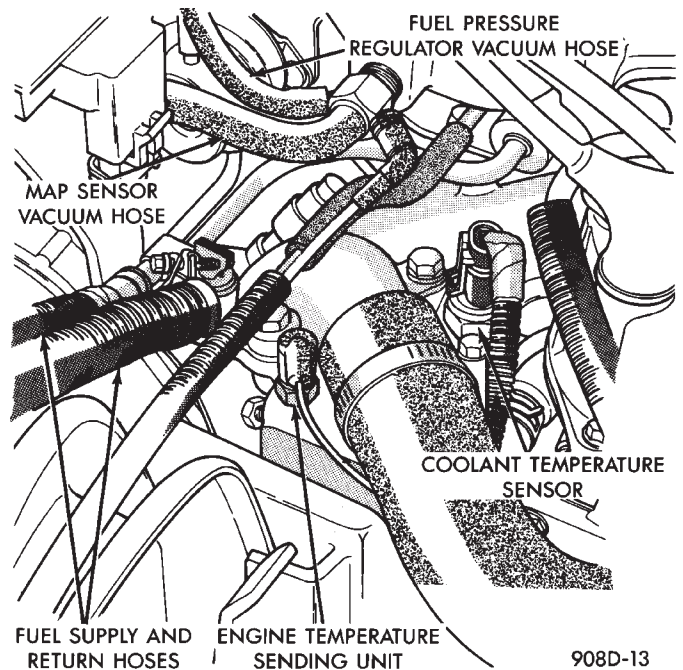

Fig. 9 Coolant Temperature Sensor
(7) Remove vacuum hoses from air intake plenum (Fig. 9).
(9) Remove the wiring connector from the coolant temperature sensor (Fig. 9).
(10) Remove vacuum connections from air intake plenum vacuum connector (Fig. 9).
(11) Remove fuel hoses from fuel rail (Fig. 9).